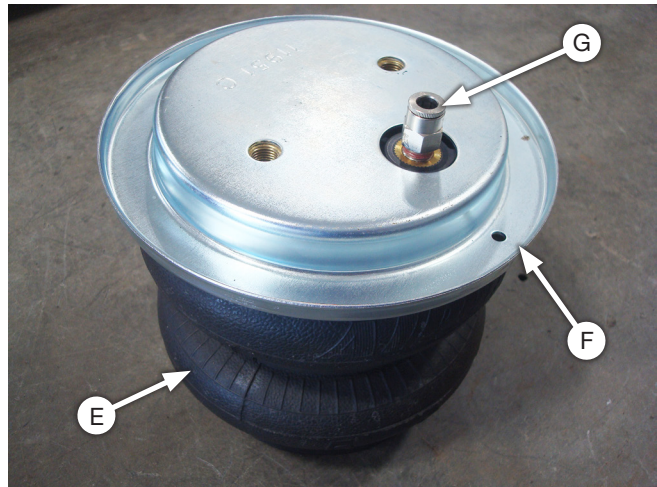

Fig. 6
1. Set a roll plate (F) on top of the air spring (E) and install the straight fitting (G) finger-tight (Fig. 6). Torque the fitting one and a half turns.